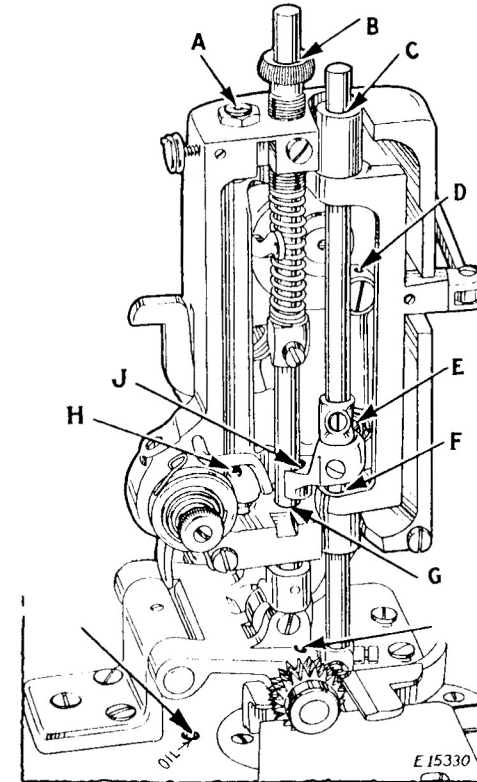
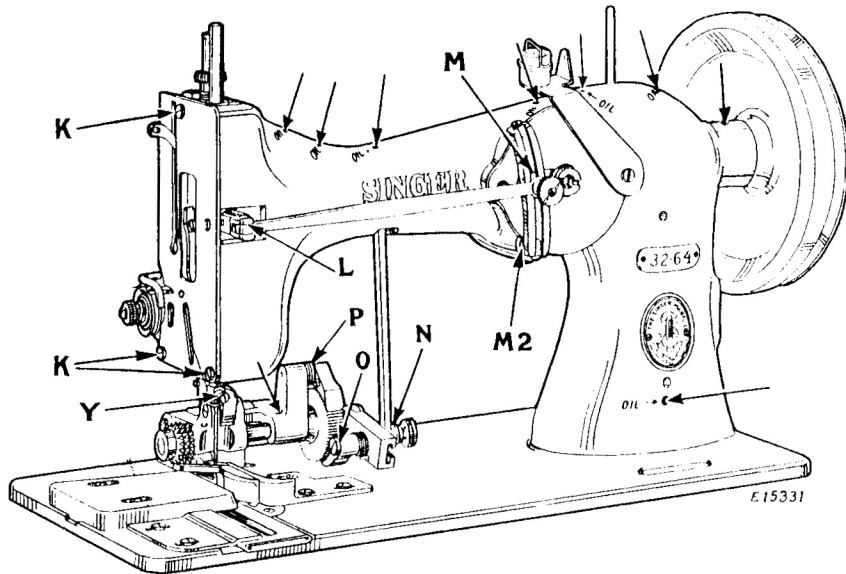

Fig. 2. Oiling Points at the Face (Left Hand End) of Machine
Fig. 3. Oiling Points at Front of Machine
Remove the three screws (K, Fig. 3) and remove the face plate. Apply a drop or two of oil at (A, Fig. 2) for the upper end of the needle bar frame; at (B) where the presser bar is in contact with the upper bushing; at (C) where the needle bar passes through the upper bushing; to the oil hole at (D) at the upper end of the needle bar connecting link; at (E) where the lower end of the needle bar link is attached to the needle bar connecting stud; at (F) where the needle bar passes through the lower bushing; at (G) where the lower end of the presser bar passes through the machine casting; to the oil hole (H) at the lower end of the needle bar frame, and at (J) where the fork of the needle bar connecting stud slides on the presser bar.
Also apply a drop or two of oil at each of the other oil holes indicated by the unlettered arrows in Figs. 2, 3 and 4.
Apply a drop of oil at (L, Fig. 3) for the hinge screw at the left hand end of the needle bar frame pitman; at (M) where the sliding block, at the right hand end of the pitman, slides in the groove of the needle bar frame regulator; at (M2) for the hinge at the lower end of the needle bar frame regulator; at the hinge screw (N) at the lower end of the feed connecting rod; at (O) the feed ratchet pawl hinge screw, and at (P) the feed ratchet retaining pawl hinge screw.
Turn the balance wheel over toward you until the needle bar is at its highest position; loosen the set screw (Y, Fig. 3), in the needle clamp at the lower end of the needle bar, and insert the needle up into the clamp as far as it will go and with the long groove of the needle toward you, then tighten the set screw (Y).